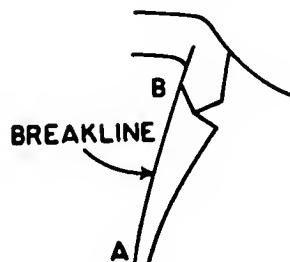

Fig. 2. Breakline or creaseline.
**Breakline or creaseline.** The folded edge of the lapel, as the revers turns back over the coat front (Fig. 2, A-B).